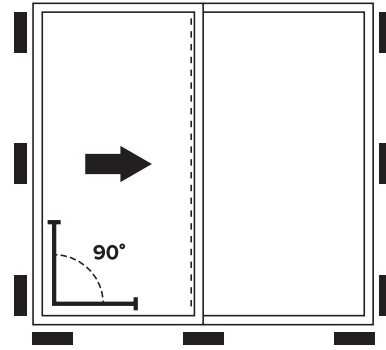

Figure 1
6. Verify the patio door frame is level and square. Use thin shims at the bottom of the door to ensure sill is supported at load points and level across the entire width as shown in **figure 1**. Place additional shims at the side of the jambs